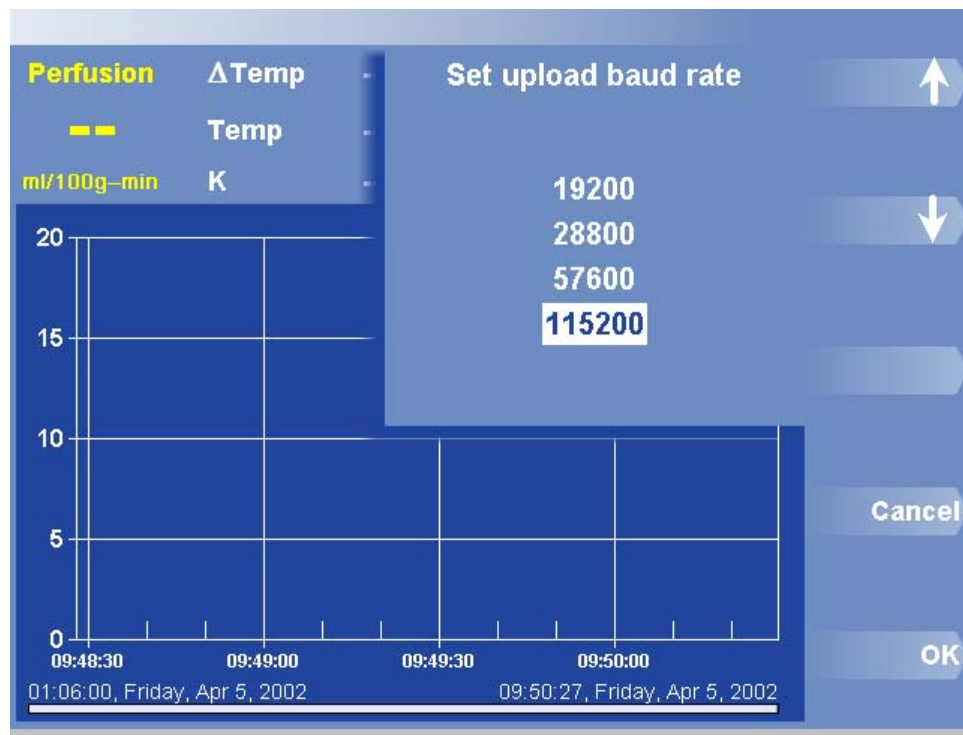

Figure 20. Set Upload Baud Rate Dialog Box and Menu
1. Press Options>More Options> More Options> Set Baud Rate. The Set Upload Baud Rate dialog box appears (Figure 20).